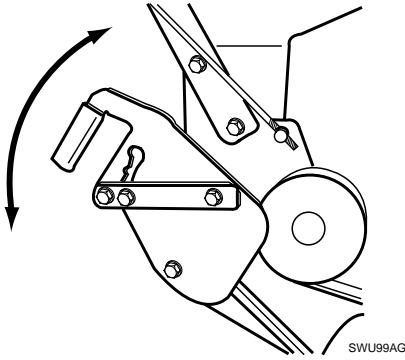

**Figure 1. Steering Control Rod Adjustment**
- Adjust the steering control rods so that there is approximately 3/4" clearance from the bottom of the rod to the bottom of the neutral latch slot when in the drive position. (See Figure 1)